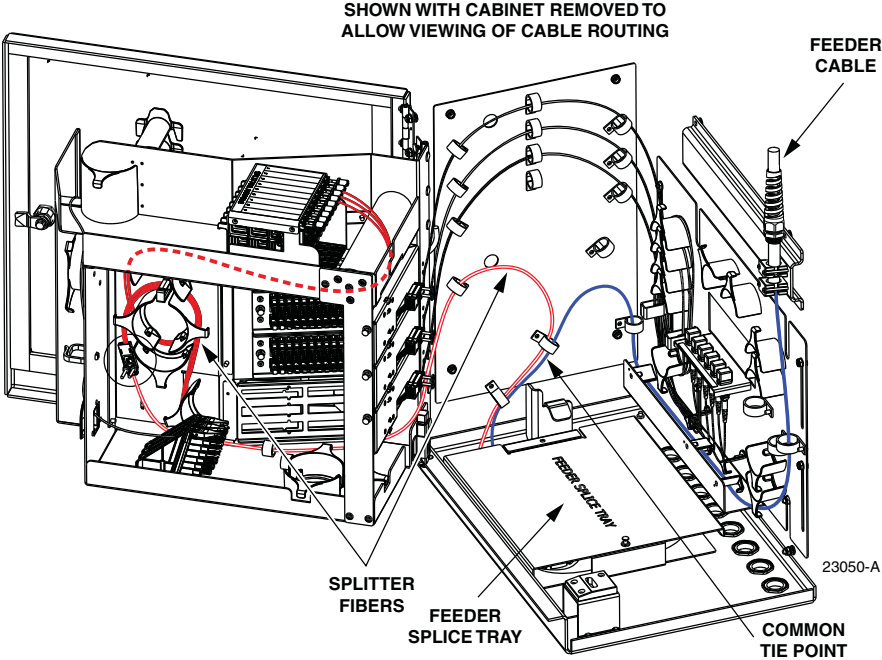

Figure 21. Feeder Splice Tray and Feeder/Splitter Fiber Routing
1. Locate the feeder splice tray mounted on the bottom of the cabinet, as shown in Figure 21, and locate the splitter fibers which are routed to the feeder splice tray.